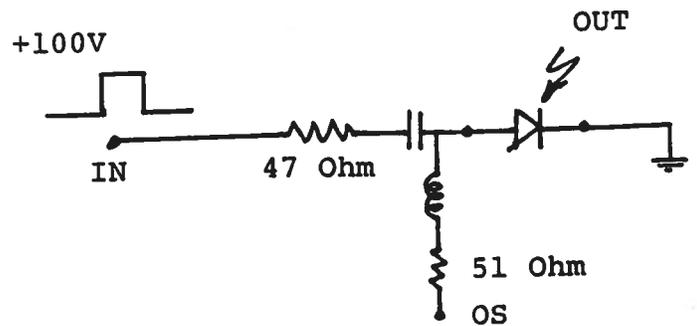

Fig. 3: AVO-2T-BEO2B3
- 1) The AVO-2T-BE02B3 output module connects to the mainframe via a 5 meter 50 Ohm cable and is designed to mate with the EG&G C86119E diode. The mainframe provides a +100 Volt (maximum) pulse to this module. The 47 Ohm resistor (and the diode resistance) limit the diode current to a maximum of 2.0 Amperes (see Fig. 3). Gently insert the anode lead of the diode package into the 10-32 threaded opening of the AVO-2T unit and contact the pin socket which is located about 1 cm into the 10-32 opening (a 1.5 mm square hole in a translucent nylon face). Push the anode lead into the socket until the 10-32 threads on the package contact the body of the AVO-2T unit. Then screw the package into the threads using finger force only. Note that the above operation is much easier if the anode lead is very straight.